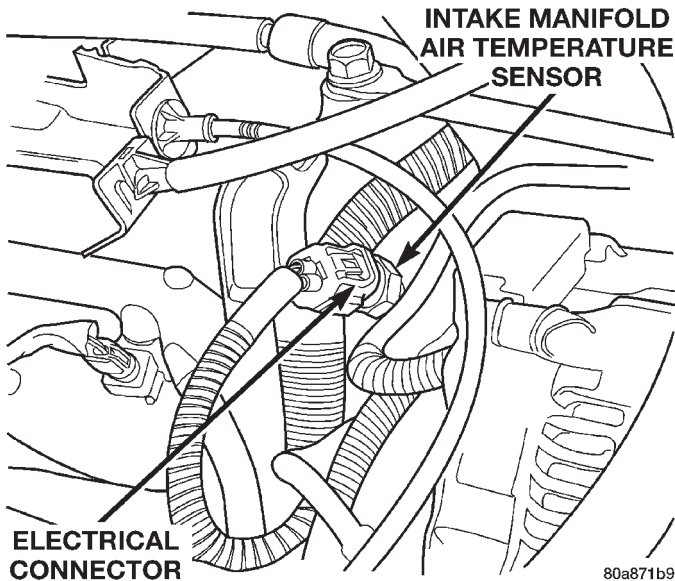

Fig. 19 Intake Manifold Air Temperature Sensor—Typical
(14) Inspect radiator grille area, radiator fins and air conditioning condenser for restrictions.
(15) Verify intake manifold air temperature sensor wire connector is firmly connected to harness connector (Fig. 19).